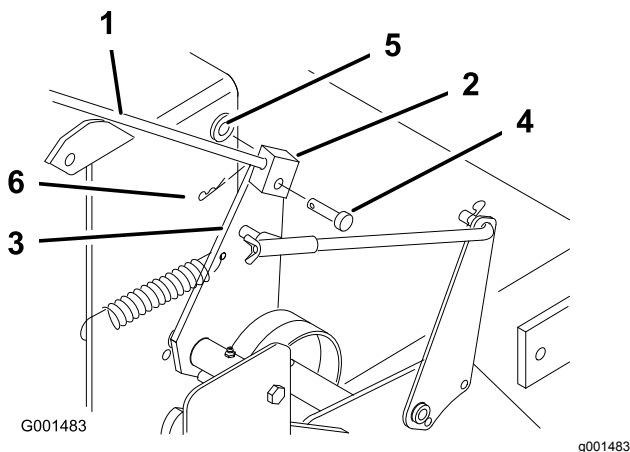

Figure 19
1. Remove hairpin cotter, washer, and clevis pin securing the control-rod fitting to the idler bracket (Figure 19).